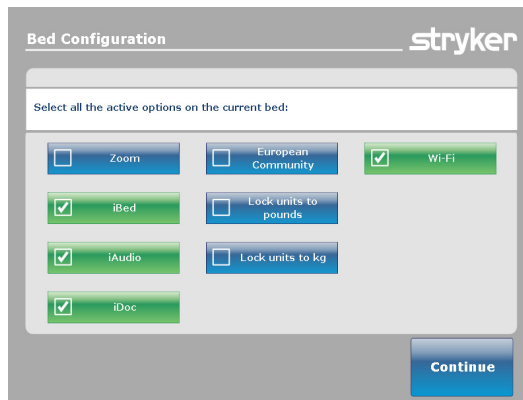

Figure 34: Bed Options screen
1. Press and hold the **HOB 30** button and the **BRAKE** button at the same time for 5 seconds, then release both buttons. The Bed Options screen (Figure 34) will be displayed.
NOTE: In Figure 34, the options selected are iBed, iAudio, iDoc and Wi-Fi. All of the options selected will turn green.